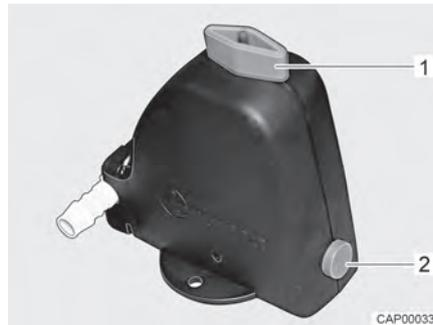

Fig. 105 Safety/drainage valve open
- Close the safety/drainage valve. Turn the knob (Fig. 105,1) perpendicular to the safety/drainage valve and push the push button (Fig. 105,2) in. The closed safety/drainage valve is shown in Fig. 106. If the temperature is below 6 °C, the safety/drainage valve cannot be closed.